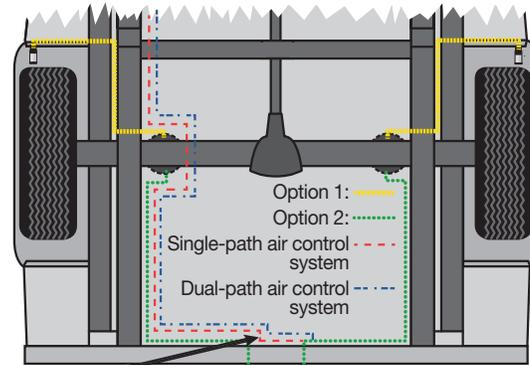

fig. 5
1. Choose a convenient location for mounting the inflation valves (Fig. 5). Popular locations for the inflation valve are: